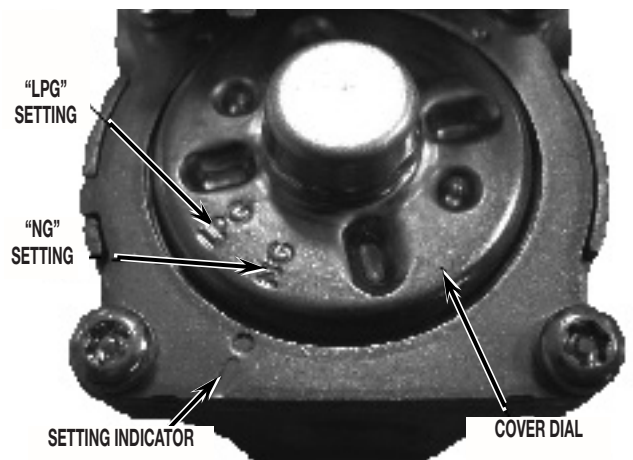

FIGURE 6
- Observe the cover dial settings indicated as NG (Natural Gas) and LPG (Liquefied Propane gas) along with the gas type setting indicator. See *Figure 6*.